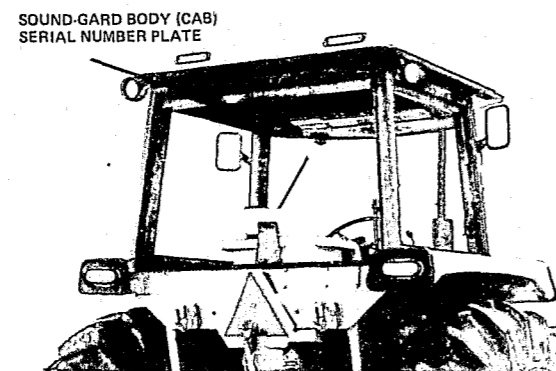

Figure 3
- The sound-gard body (cab) serial number is stamped into the sound-gard body serial number plate which is riveted to the door header inside the cab. (See Figure 3)